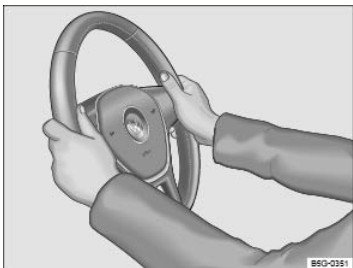

Fig. 44 Steering wheel: 9 o'clock and 3 o'clock positions.
- Adjust the steering wheel so that it can be held with hands at the 9 o'clock and 3 o'clock positions on the outside of the steering wheel rim and with the arms slightly bent at the elbow ⇒ Fig. 44.